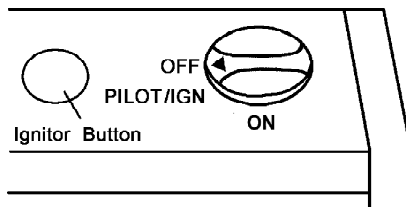

Figure 15 - Control Knob In The OFF Position (MN060HPA)
3. Push in gas control knob slightly and turn clockwise ↻ to the OFF position (see Figures 15&16).
4. Wait five (5) minutes to clear out any air. Then smell for gas, including near the floor. If you smell gas, STOP! Follow "B" in the safety information on the side of the heater. If you do not smell gas, go to the next step.
5. Push in gas control knob slightly and turn counterclockwise ↻ to "PILOT/IGN" and depress for five(5) seconds